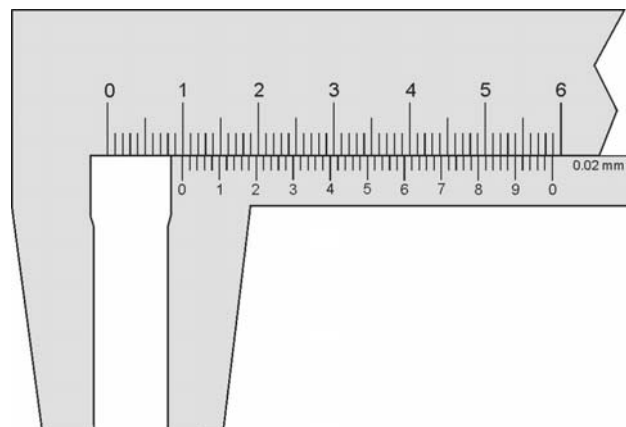

Fig. 6 Another reading on a vernier caliper.
5. What is the vernier caliper reading in **figure 6**?